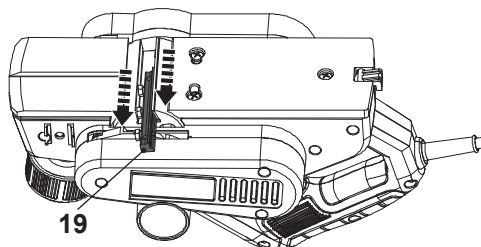

Fig. 16
4. Press the guard (24) down and hold it in position.
5. Push the blade (19) slightly with a piece of wood and then pull it out using a proper tool, e.g. pliers (Fig. 16).